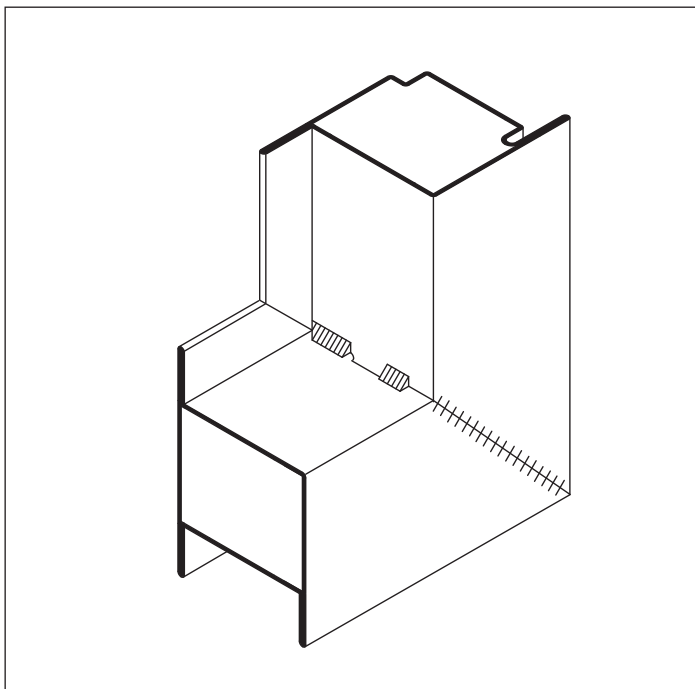

Fig. 107 Jansen-Economy 50/60 door leaf frame welded in the glazing rebate
- Weld the profiles continuously, where possible (Fig. 107/108)